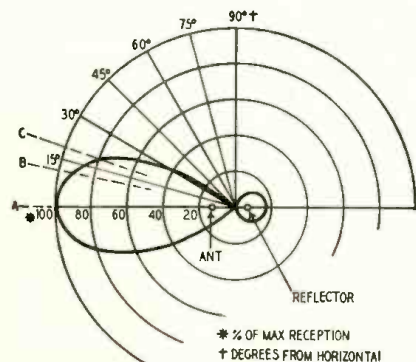
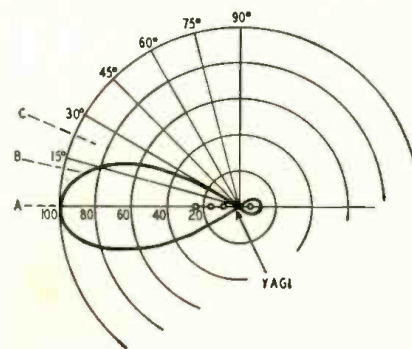

Fig. 1—Vertical-directivity pattern of a horizontal dipole with reflector. The principal lobe offers little discrimination against signals from *B* and *C*.
Fig. 2—Narrower vertical-directivity pattern obtained by adding director elements. The response to signals arriving from *C* has been reduced about 50%.
The a.g.c. circuit in the Du Mont RA-166, RA-167, and similar chassis is essentially a standard 6AU6 keyed-a.g.c. system with provision for delaying the application of the tuner a.g.c. voltage. The circuit is shown in Fig. 1.
Fig. 1—Delayed keyed-a.g.c. circuits of the late-model Du Mont RA-166, 167, 170, and 171 *Telesets*. The 12AU7 voltage-regulator tube stabilizes the gain of the 6AU6 a.g.c. amplifier against variations in B plus and power-line voltages.
1. Broad-band preamplifiers and output amplifiers. One example is the Spencer-Kennedy Laboratories' "distributed" amplifier, used without either channel converters or a.g.c. The number of broad-band preamplifiers connected in cascade at the antenna site depends, naturally, on the incoming-signal level, amplifier gain, and the output level required to overcome cable losses and deliver adequate signal to the next amplifier. As many as three SKL broad-band amplifiers have been cascaded at the antenna site. See Fig. 1.
Fig. 1—Block diagram of SKL (Spencer-Kennedy Laboratories) community-TV antenna system. Individual-channel antennas feed up to three cascaded broadband amplifiers through a matching network.
Fig. 2—A composite dual-antenna community TV system. Preamplifier feeds "re-amplifiers" with individual a.g.c. The input lines are shown at top of channel units; outputs at the bottom feed broadband amplifiers which supply signals to the distribution system.
Several factors must be considered. A dipole antenna with a reflector has the vertical-directivity pattern shown in Fig. 1 (looking at the antenna from the side). Single-bay antennas have a fairly broad pickup so that the reduction in strength for a signal arriving at an angle *B* or *C* is not too severe. When directors are added to such an antenna to form a Yagi the pattern elongates and becomes narrower as shown in Fig. 2. Here an upward tilt would be very helpful if signals arrive at an angle above the horizontal.